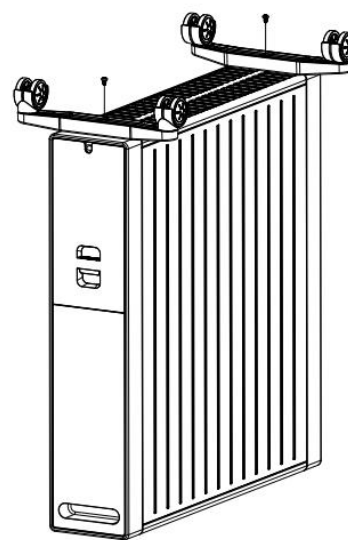

Fig 3
3. Fix the wheel bases by the screws on each side (Fig 3).